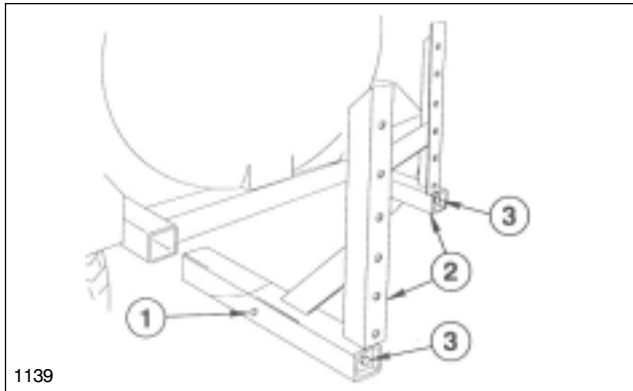

FIG. 1
1. Apply a heavy coating of grease to the tubes of the two (2) Boom Mount Assemblies and insert them into the Vehicle Frame until Stop Pin bottoms out against Vehicle Frame. (See FIG. 1) Do not tighten mounts at this point.